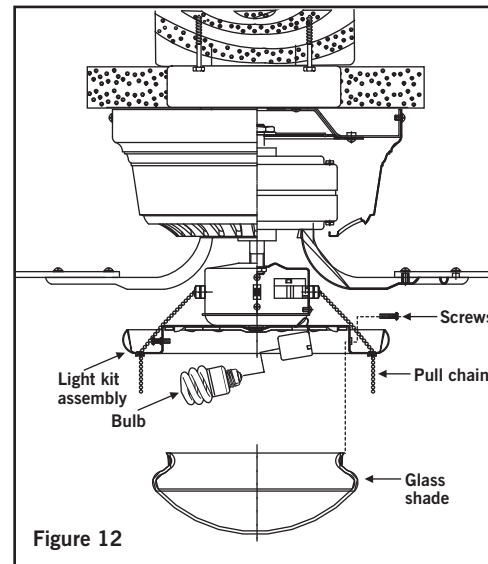

Figure 12
4. Mount the glass shades to the light fixture by unscrewing partway the thumbscrews on the glass holders, insert the glass, then gently tighten the thumbscrews by hand evenly to the glass. Do not over tighten. (Fig. 12)